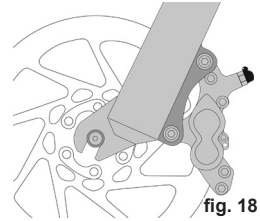
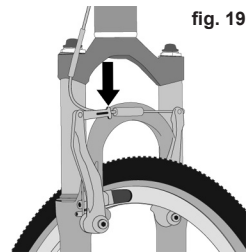

fig. 18
fig. 19
1. If your e-bike has rim brakes, disengage the brake's quick-release mechanism to increase the clearance between the tire and the brake pads. **Refer to Page 57, Section 11: "Tech", subsection C: "Brakes", figs. 18 through 22.**
1. If you have a multi-speed e-bike with a derailleur gear system, shift the rear derailleur to high gear (the smallest, outermost rear sprocket). If you have an internal gear rear hub, do not attempt to remove the rear wheel. Consult your authorized retailer or the hub manufacturer's instructions for additional information. If you have a single-speed e-bike with rim or disk brake, go to step (4) below.
2. If your e-bike has rim brakes, disengage the brake's quick-release mechanism to increase the clearance between the wheel rim and the brake pads. **Refer to Page 57, Section 11: "Tech", subsection C: "Brakes", figs. 18 through 22.**
3. Some bicycle brakes, such as disc brakes (fig. 18) and linear-pull brakes (fig. 19), are extremely powerful. Take extra care in becoming familiar with these brakes and exercise particular care when using them.
Most rim brakes have some form of quick-release mechanism to allow the brake pads to clear the tire when a wheel is removed or reinstalled. When the brake quick-release is in the open position, the brakes are inoperative. Ask your authorized retailer to make sure that you understand the way the brake quick-release works on your e-bike (see figs. 19, 20, 21 & 22) and check each time to make sure both brakes work correctly before you get on the e-bike.